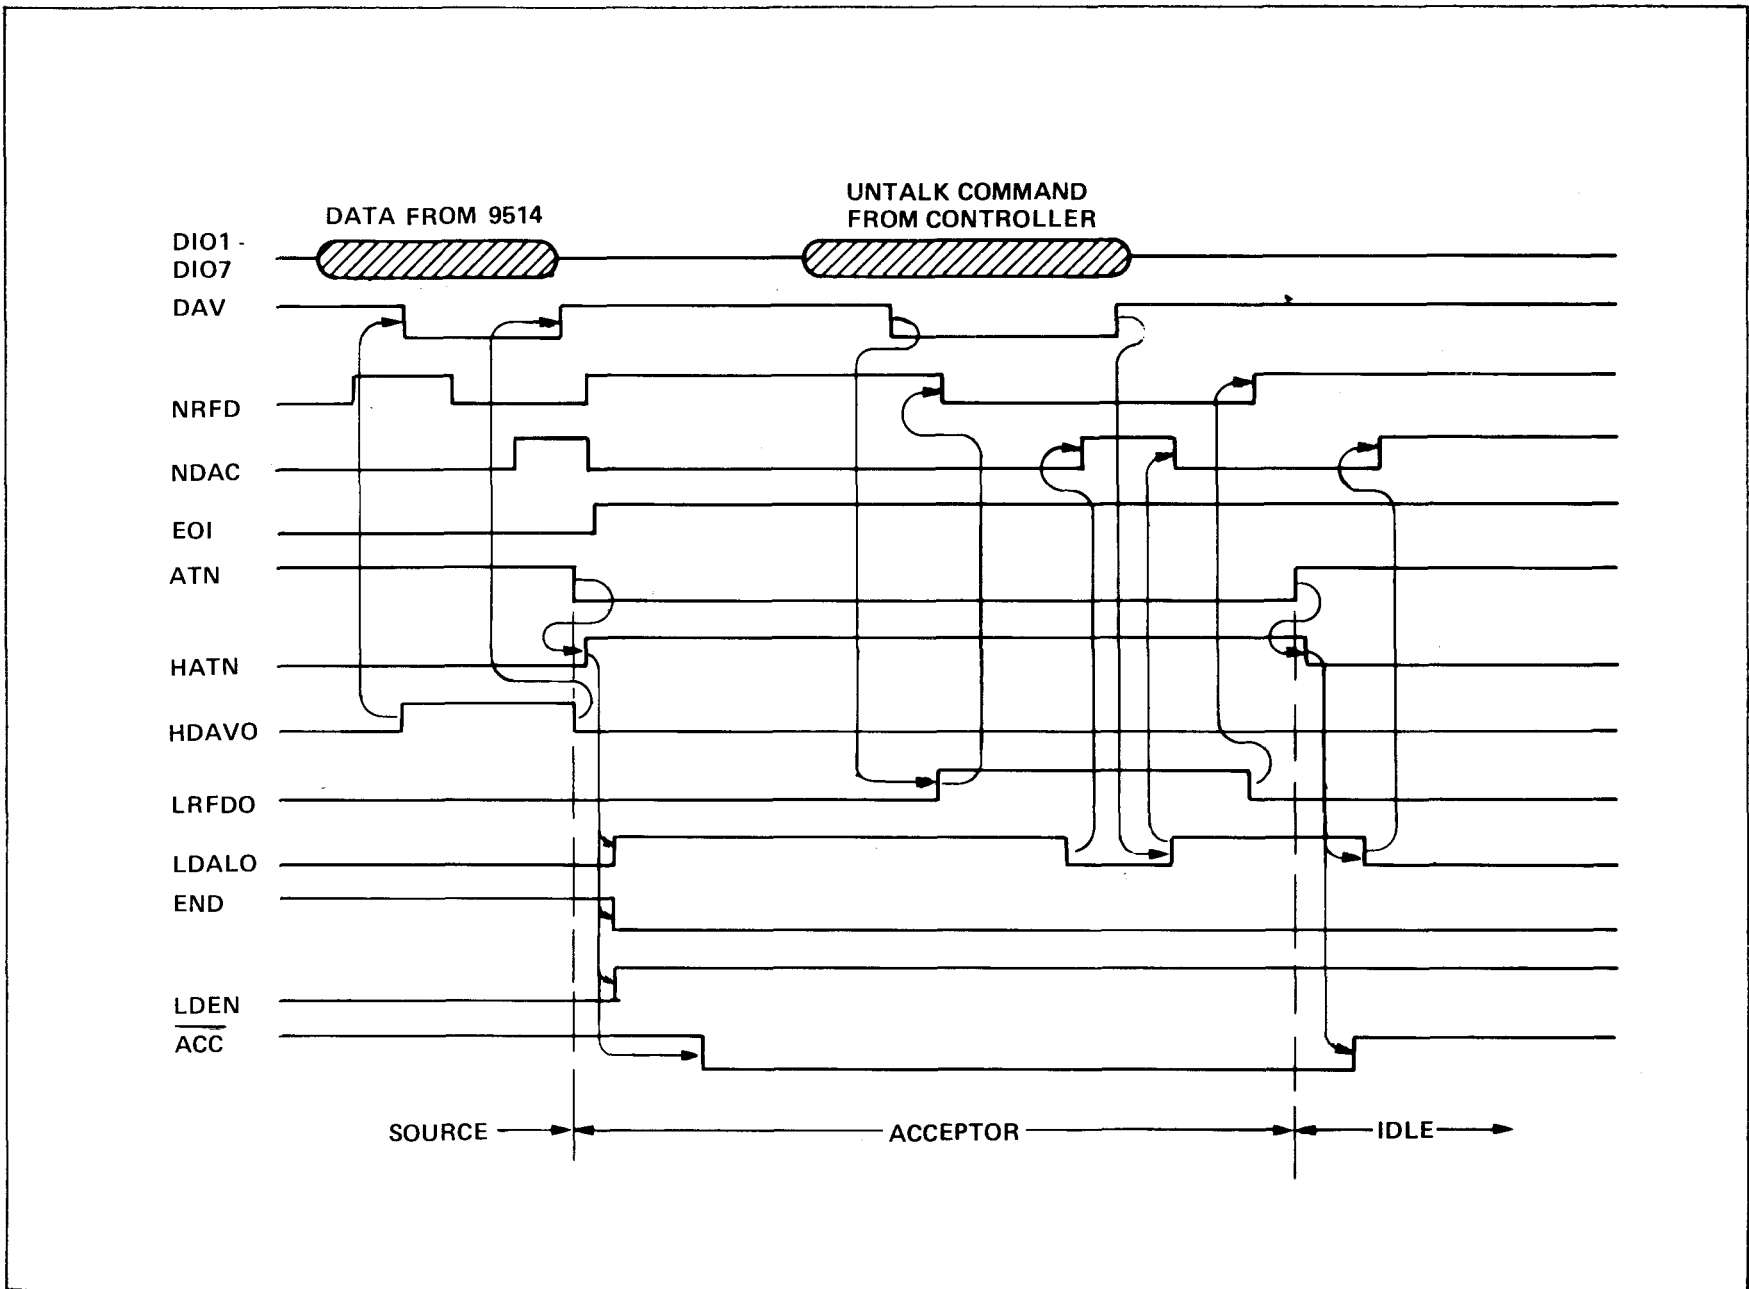

Figure 1.49 - Acceptor Mode Timing Diagram
1.5.4.4.2 The acceptor mode is entered whenever ATN is asserted by the controller. The interface standard requires that the instrument enters the acceptor mode within 200  $\mu\text{sec}$  after ATN is asserted. Figure 1.49 shows the sequence followed when the counter enters the accept mode. Notice that  $\overline{\text{ACC}}$  allows HATN to force the handshake lines (as seen by the system controller) to enter the Acceptor Ready State within a few gate delays. The processor will then have time to detect the presence of the ATN signal. In order to proceed to accept characters from the interface, the processor changes the input lines to U25 from the idle state to the Acceptor Ready State and sets ACC low, thus gaining direct control of the bus handshake lines. Assume that the system controller proceeds to send the instrument's listen address through the bus. The Model 9514 will accept it and in doing so it will become a listener.